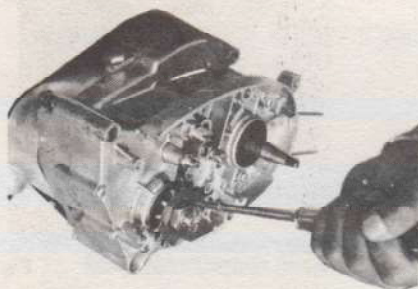

Fig. 3-32
- Use a screwdriver to flatten the lock washer and unlock the nut. (Fig. 3-32)